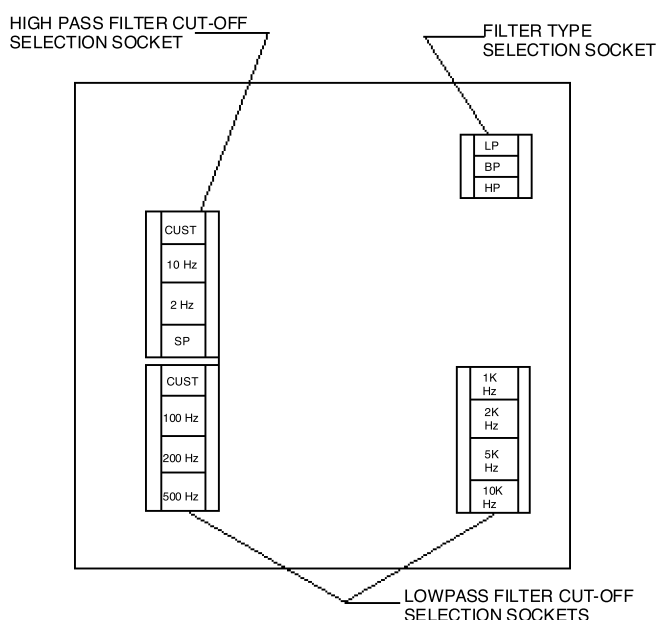

FIGURE 6-1: PROGRAMMING JUMPER SELECTION
1. Place a DIP jumper at the proper position to select the mode, i.e., LP (low-pass) or HP (high-pass). (See Figure 6-1).
2. Install another jumper to select the desired high-pass or low-pass cut-off (corner) frequency. (See Figure 6-1).
2. Install two jumpers to select a cut-off frequency from the low-pass (LP) filter section and a cut-off frequency from the high-pass (HP) filter section. (See Figure 6-1).